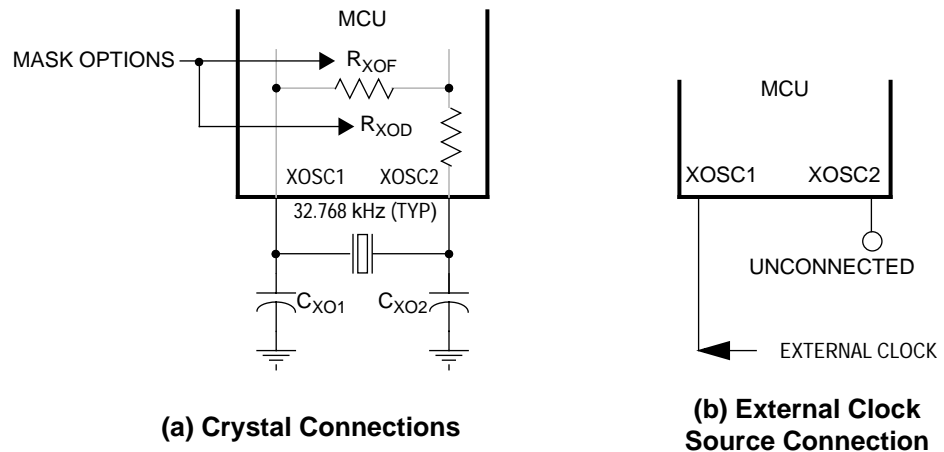

Figure 1-4. Oscillator Connections
- A crystal as shown in **Figure 1-4 (a)**
- An external clock signal as shown in **Figure 1-4 (b)**
The circuit in **Figure 1-4 (a)** shows a typical 2-pin oscillator circuit for an AT-cut, parallel resonant crystal. The crystal manufacturer's recommendations should be followed, as the crystal parameters determine the external component values required to provide maximum stability and reliable startup. The load capacitance values used in the oscillator circuit design should include all stray capacitances. The crystal and components should be mounted as close as possible to the pins for startup stabilization and to minimize output distortion. An internal startup feedback resistor of R_{XOF} between XOSC1 and XOSC2 and a damping resistor of R_{XOD} in series to XOSC2 may be selected as a mask option. Typical R_{XOF} resistor value is 5.5 M Ω , and R_{XOD} resistor value is 320 k Ω .
An external clock from another CMOS-compatible device can be connected to the XOSC1 input, with the XOSC2 input not connected, as shown in **Figure 1-4 (b)**. This configuration is possible regardless of how the oscillator is set up.